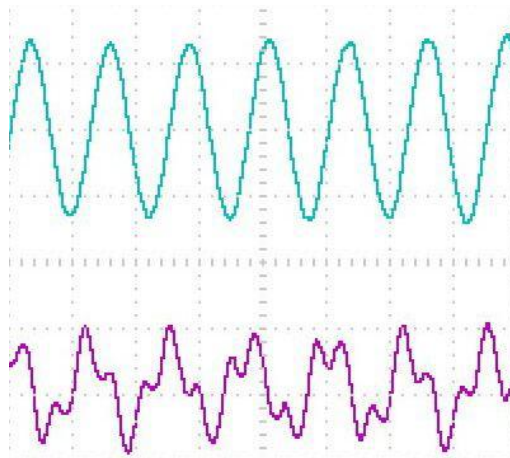

Figure 16: An 80 MHz signal before (bottom) and after (top) being bandpass filtered.
Alternatively, JP805 can be connected to an SP32 board (Figure 16) which allows the use of MMCX cables. This enables the individual bits of the PulseBlasterDDS-II to be more easily accessed. Pin 1 on the MMCX adapters can be identified with a square pin.
3. SpinCore MMCX Adapter Board Figure 16 – This adapter board allows easy access to the individual bits of the PulseBlasterDDS-II-300-AWG. This adapter board can be part of a package that includes 12 MMCX to BNC cables and three SMA to BNC adapters. This package can be changed to include any number of cables and any number of adapter boards. For ordering information contact SpinCore at <http://www.spincore.com/contact.shtml>.